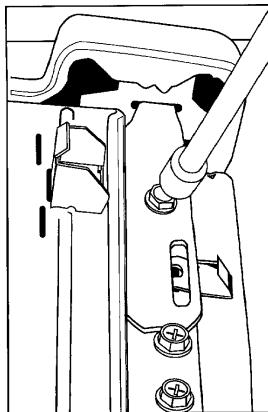

Figure 5-5
- 3 Remove two 5/16" hex head screws securing the two hold down brackets on the top cover (*Figure 5-5*).